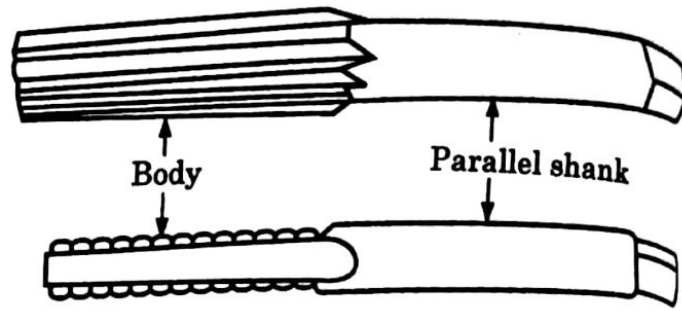

Fig. 2.38 : Taper Reamers
2. Taper Reamers : These reamers are available in different standard sizes. These are used for finishing hole to an exact taper. These are made in sets of two, one is used for roughing and other is used for finishing. These are available in both hand and machine types. Hand taper reamers have parallel shank, while the machine taper reamers may have a straight or taper shank and the tang is bevelled as usual. (See fig. 2.38).